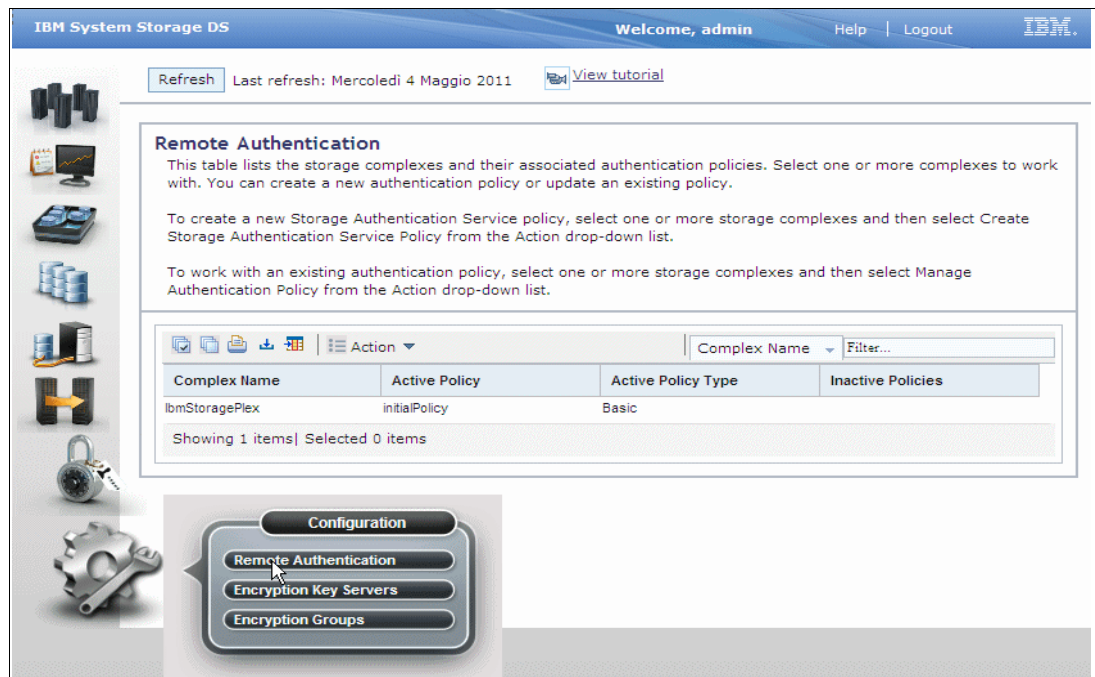

Figure 9-10 Remote Authentication
- From the categories in the left sidebar, select **Remote Authentication** under the section **Configuration** as shown in Figure 9-10.